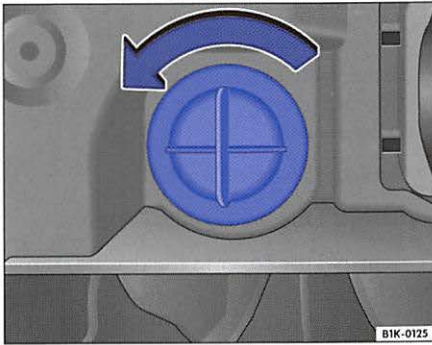

Fig. 38 Bulb holder for the turn signal
- Turn the bulb holder as far as it will go in the direction of the arrow ⇒fig. 38.